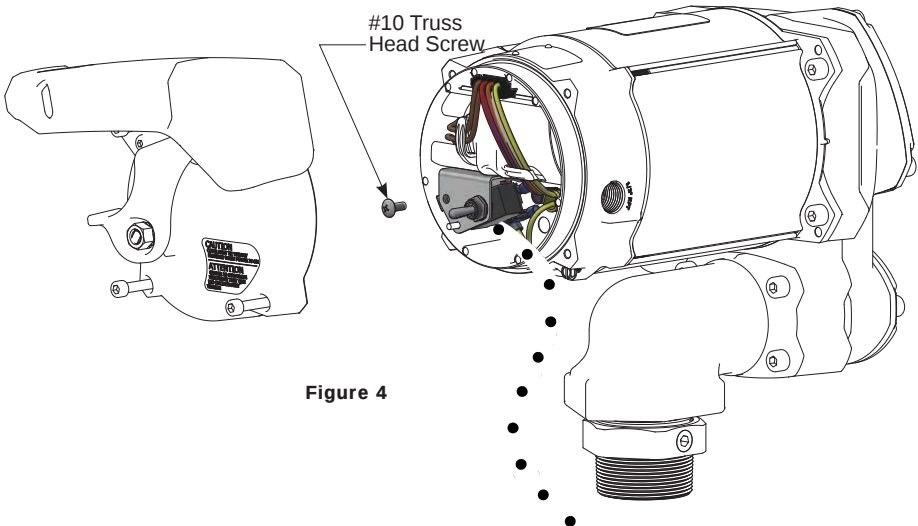

Figure 4
2. Using a 4mm Hex wrench remove the (2) BHCS and nozzle cover.
3. Remove the (4) M6 SHCS and electrical cover plate from the motor housing.
4. Remove the (1) #10 truss head screw and switch bracket with switch assembly (see Figure 4).